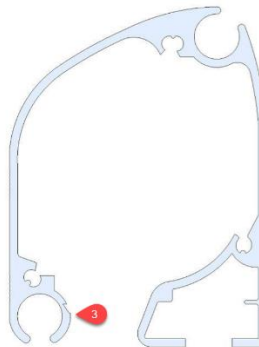

Figure 2
3. Slide the valance off the channel (*figure 2*).